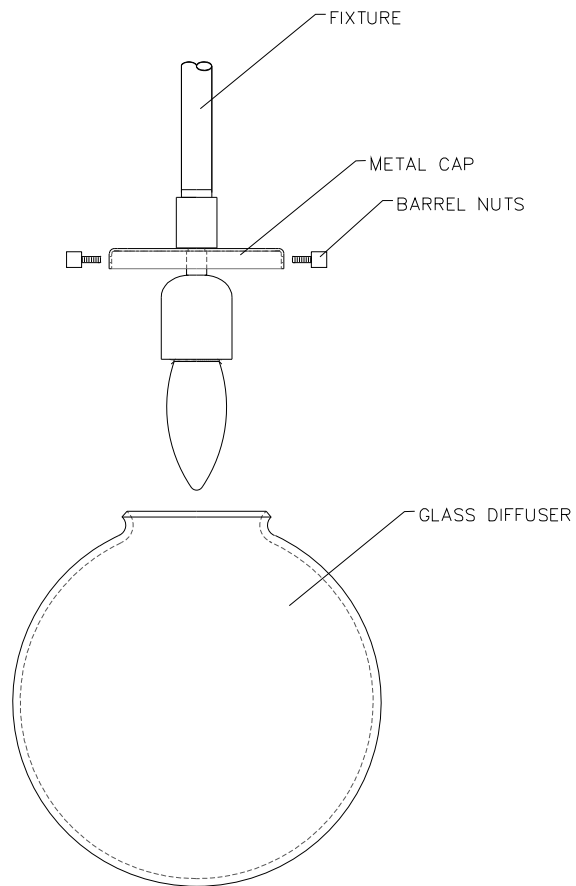

FIGURE-04
9. Install glass diffuser to the fixture, fit the glass to the metal cap and secure it by fastening barrel nut. (See Figure-04)